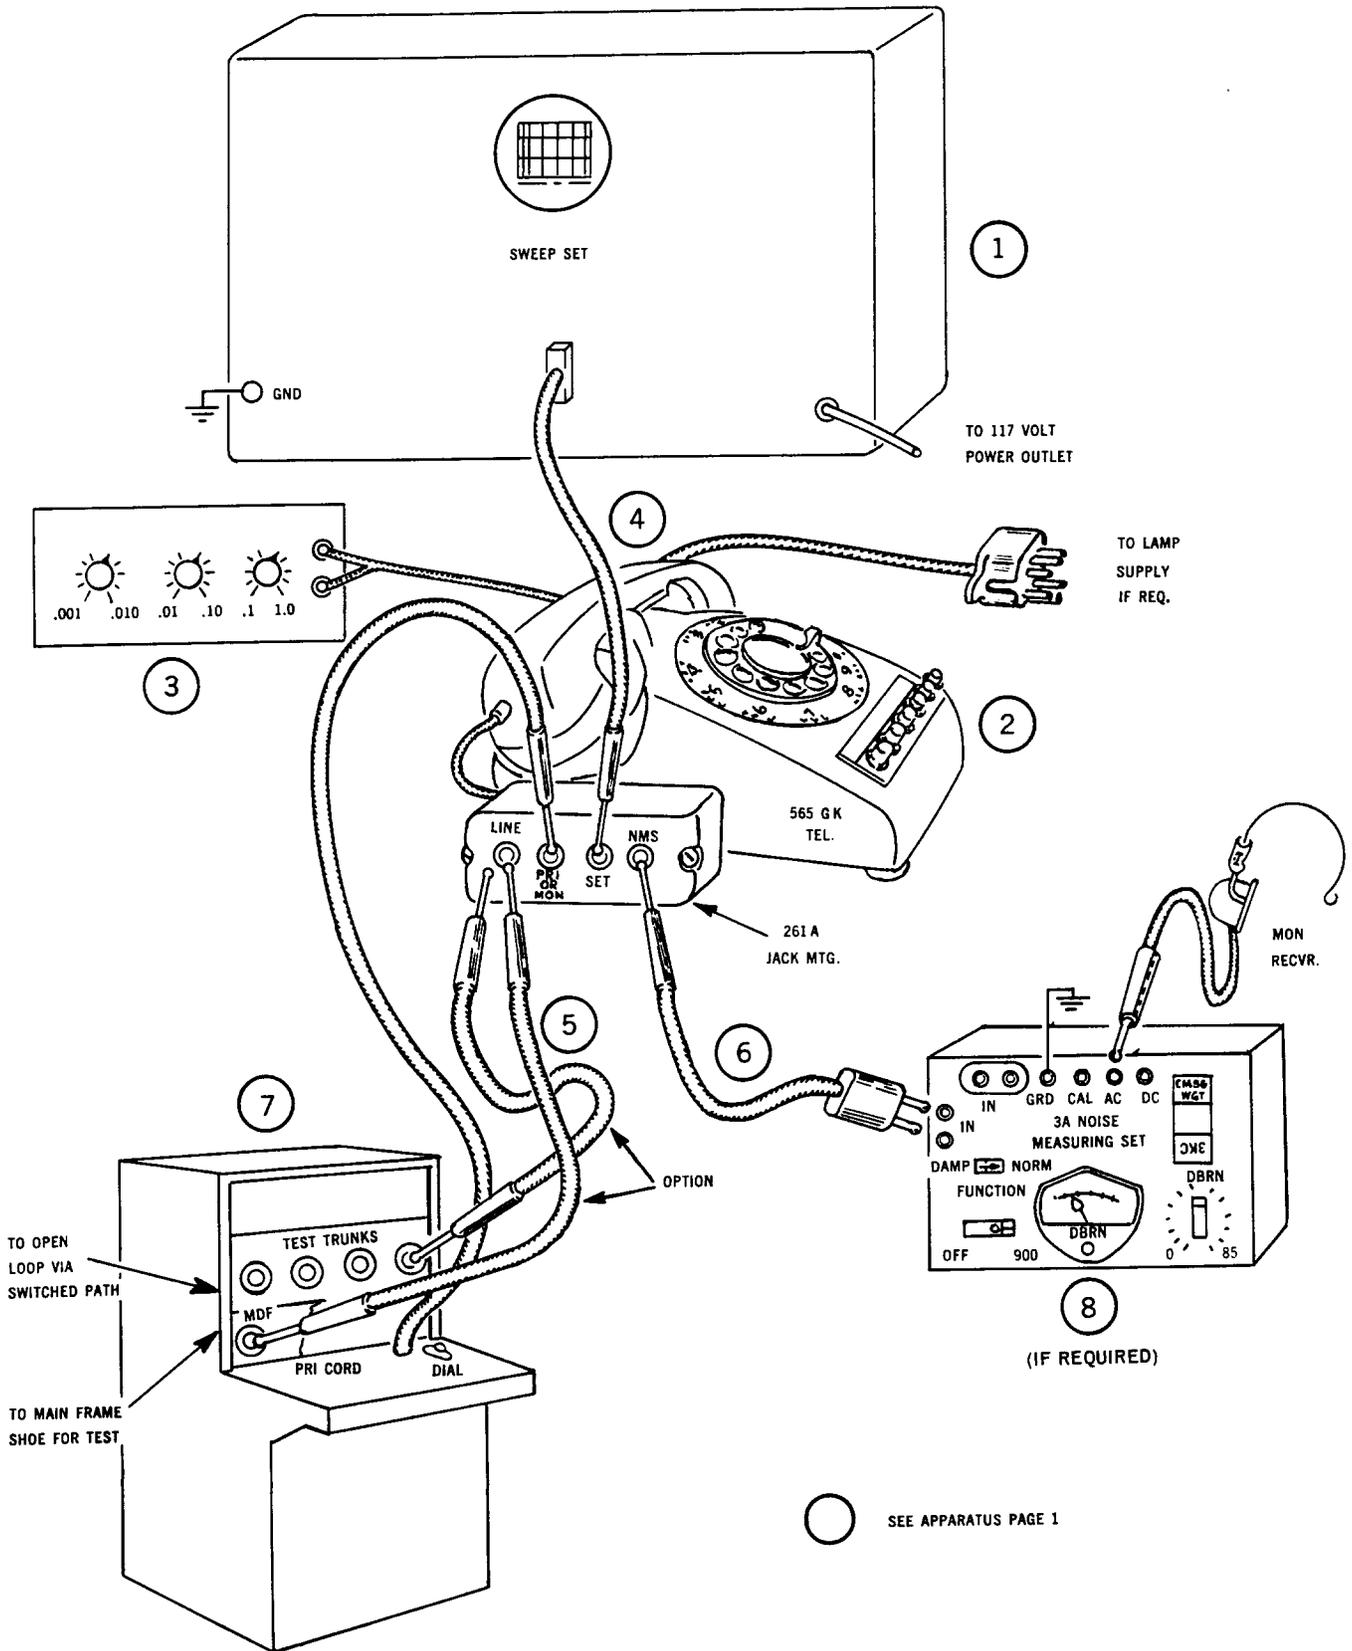

Fig. 1 - Test Connections
2.03 The sweep set requires a 117V AC power outlet and ground, or it should be equipped with a 3-wire power cord. The telephone set lamps may be activated with AC power by providing a 2012A transformer wired locally as indicated in Fig. 1 of Section 330-450-102.
3.01 Connect the test apparatus as shown in Fig. 1. The numbers on the figure refer to the items in the apparatus list.